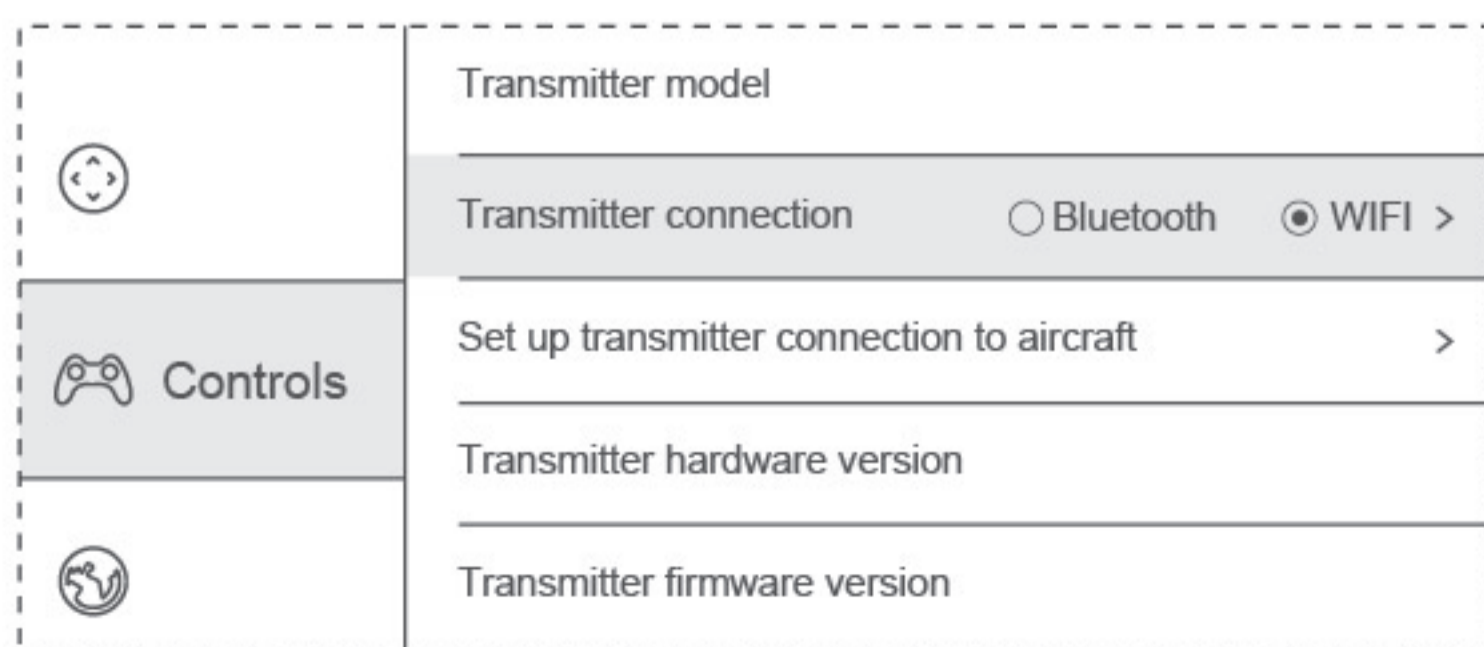

Figure 7
2) Run X-Hubsan APP. Enter the "Settings" interface and tap the "Controls" tab. Select "WIFI" on the "Transmitter connection" tab (Figure 7).